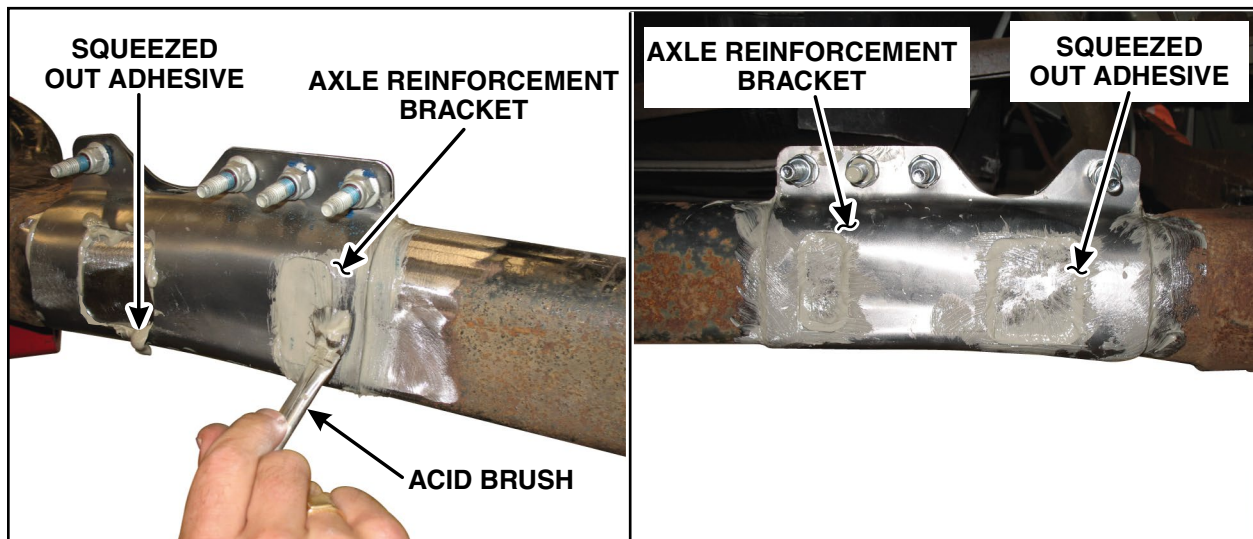

FIGURE 11
16. Brush the squeezed out adhesive around all edges of the axle reinforcement brackets with an acid brush to ensure all openings are completely sealed. See Figure 11.